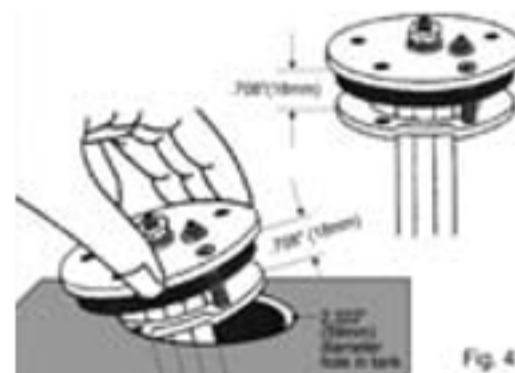

Fig. 4
2. Refer to Fig. 4 and slip the fuel sender assembly into the 59mm hole in the tank, turning until it goes into the tank.